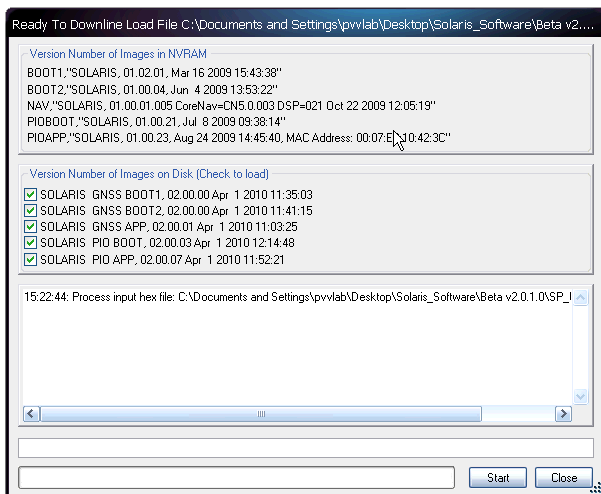

Figure 17: Ready to Downline Load File
33. The files to be uploaded are displayed on the *Ready to Downline Load File* dialog box with their corresponding check boxes selected (see Figure 17). Select and deselect files as necessary.